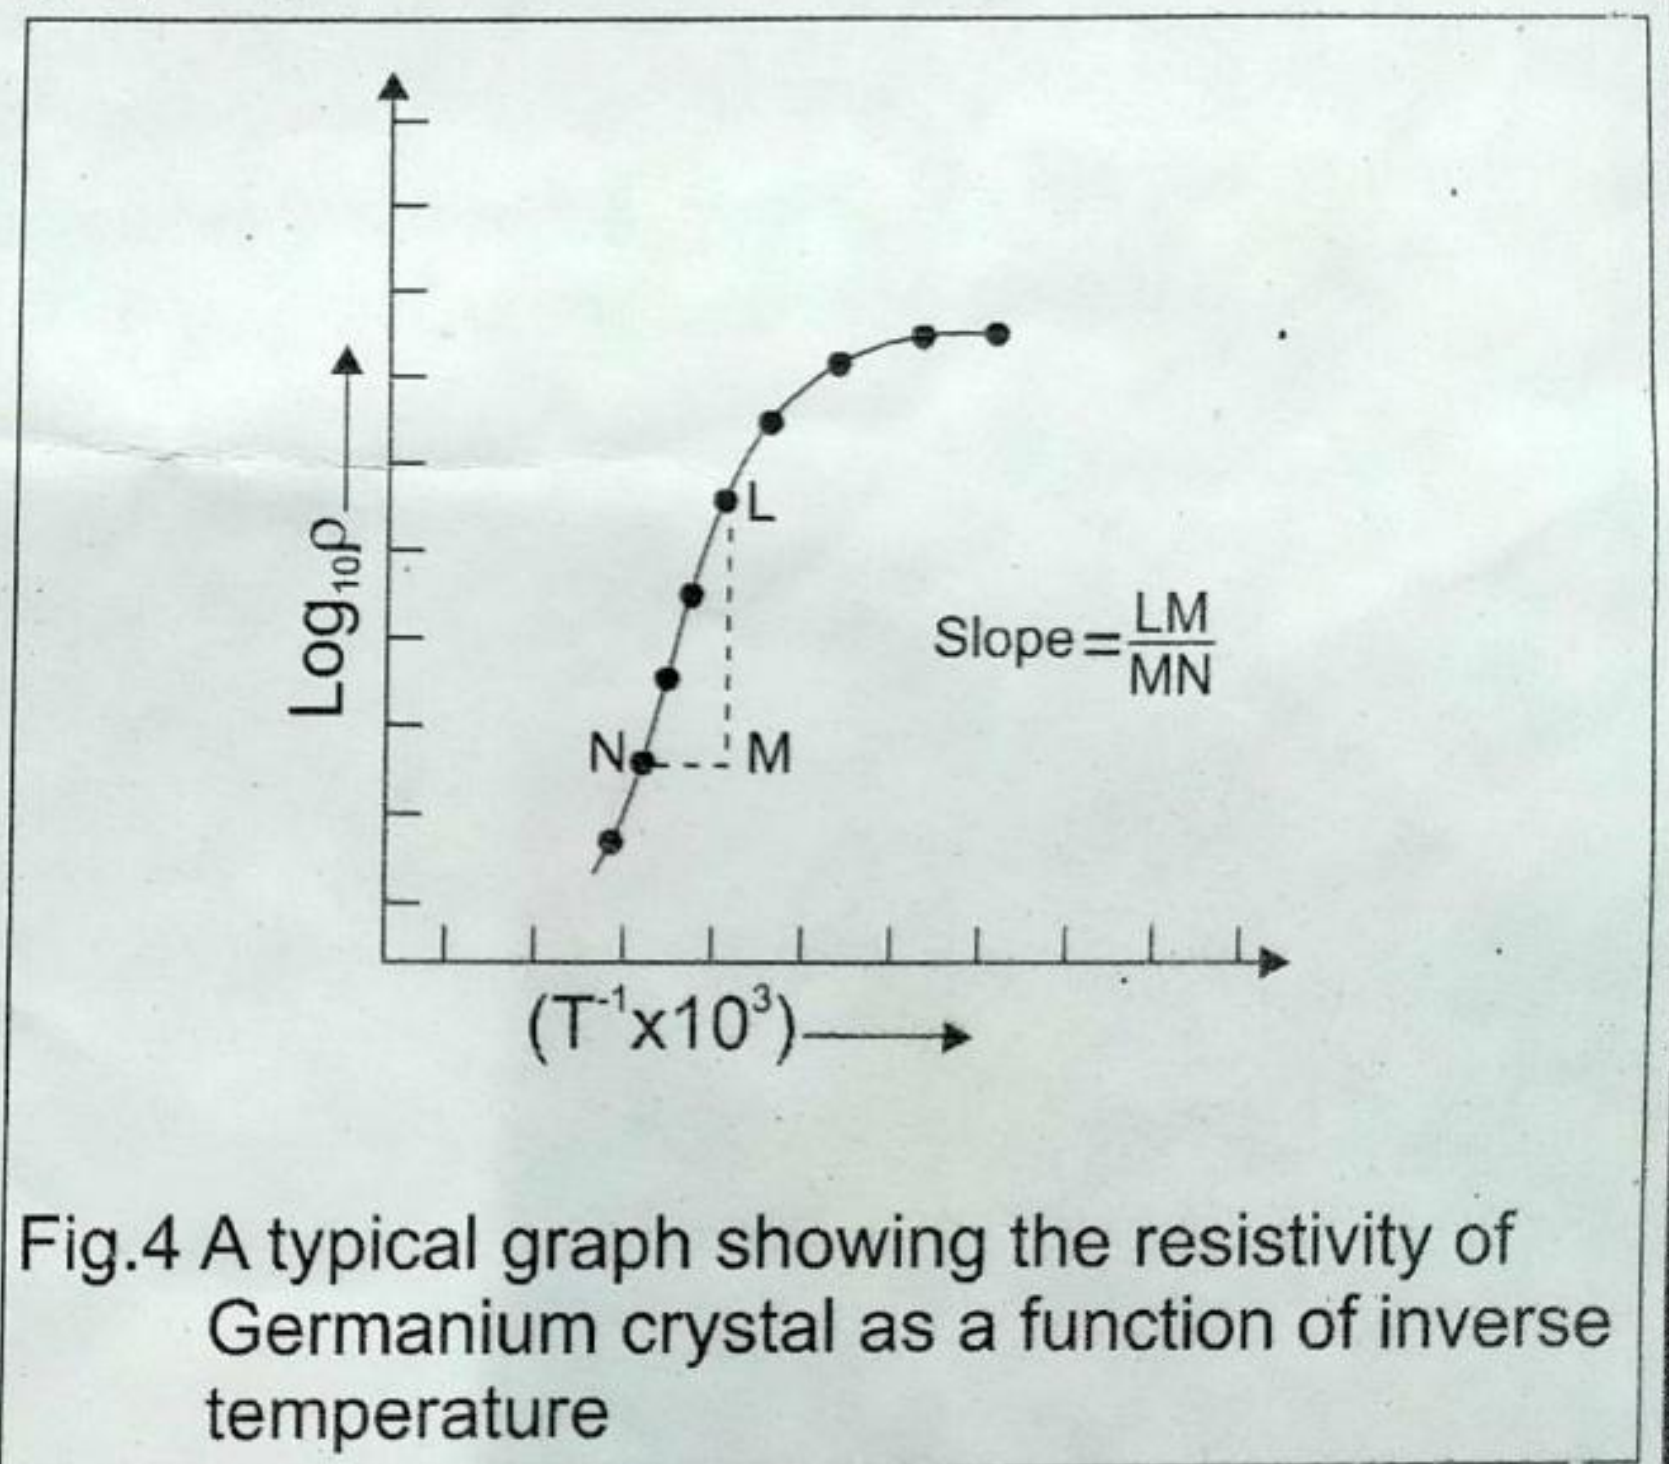

Fig.4 A typical graph showing the resistivity of Germanium crystal as a function of inverse temperature
3. Plot a graph ($T^{-1} \times 10^3$) versus $\log_{10} \rho$ and find the slope of the curve as shown in a typical graph figure 4